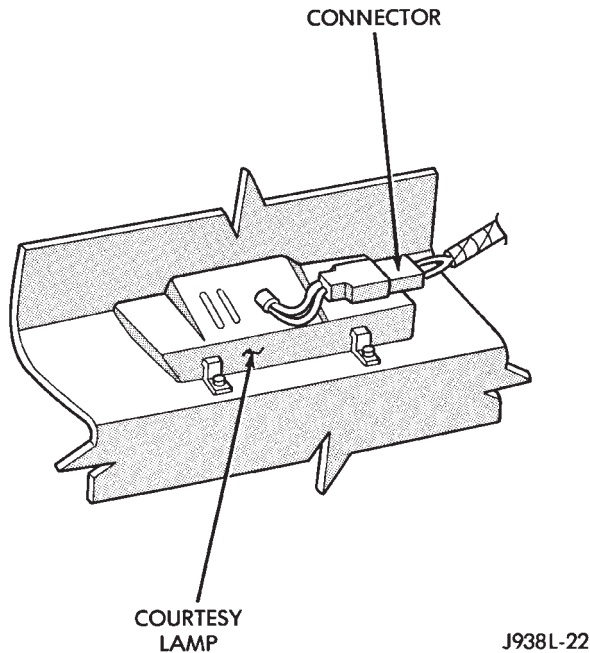

Fig. 4 Door Courtesy Lamp
(1) Remove door panel. Refer to Group 23—Body Components for service procedure.
(2) Disconnect wiring harness connector (Fig. 4).
- (3) Carefully insert a thin flat blade screwdriver between lens and door trim panel.
- (4) Rotate screwdriver to remove lens.
- (5) Push door courtesy lamp housing through door trim panel.